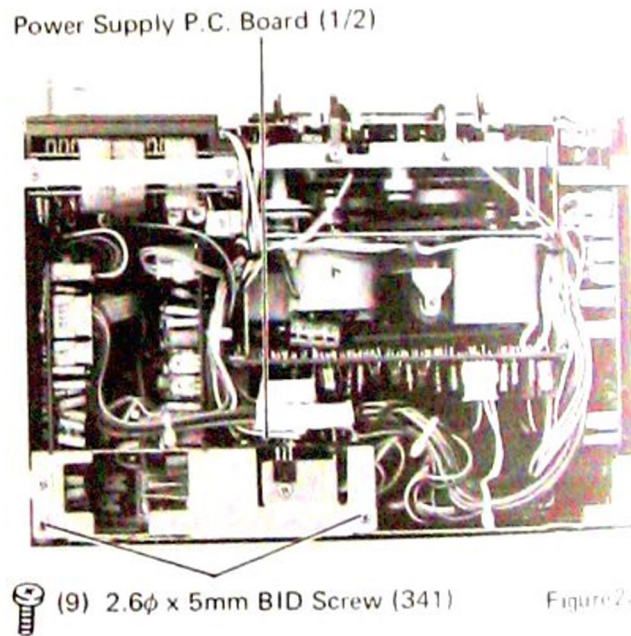

Figure 22
2. Remove two screws (9) holding the mounting bracket for the power supply P.C. Board (1/2) and then lift up the P.C. Board upward as shown in Figure 22.